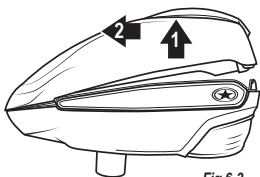

Fig 6.3
3. Lift the Upper Shell away from the Lower Shell, angling it slightly forward until it is free (Fig 6.3).